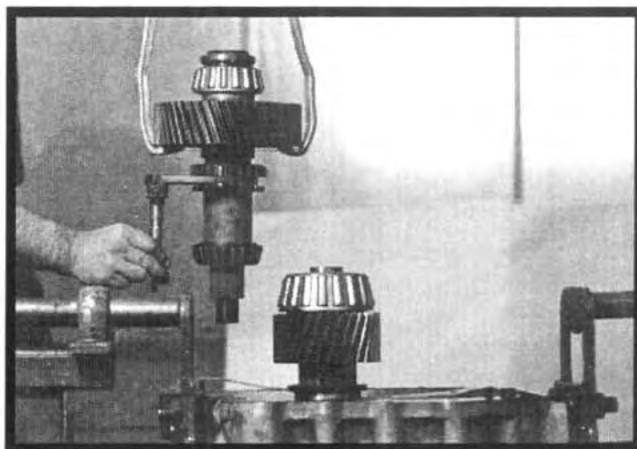

Figure 6.31
7. Position the front output shift shaft/fork to the front output shaft clutch collar and lower into place (gear end upward). See Figure 6.31.